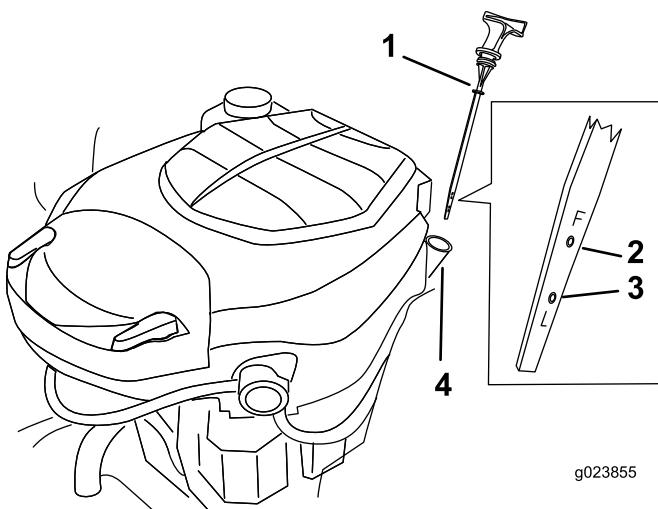

Figure 29
4. Remove the dipstick and wipe the oil off from it (Figure 29).
6. Pull the dipstick out, and check the oil level (Figure 29).
8. Remove the oil-fill cap/dipstick (Figure 29).
- Slowly pour approximately 80% of the specified oil into the filler tube (Figure 29).
- Install the oil-fill cap/dipstick (Figure 29).
- Check the oil level (Figure 29).